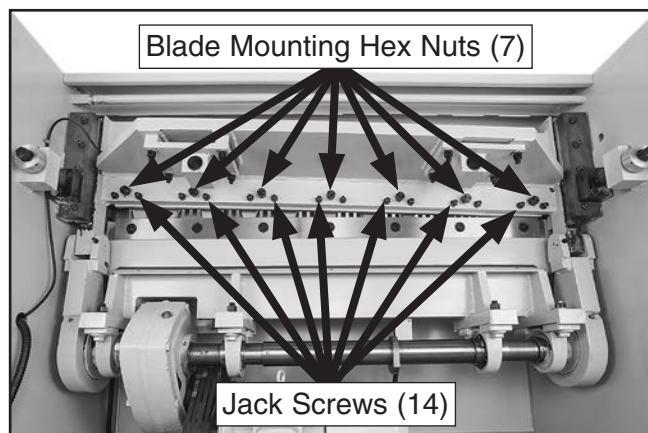

Figure 58. Upper blade jack screws and mounting hex nuts.
- Re-check blade gap. If necessary to achieve blade gap of 0.002" between blade guides, loosen hex nuts and turn jack screws to adjust gap (see **Figure 58**).